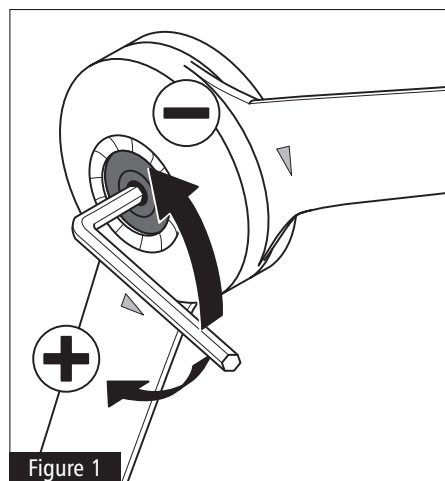

Figure 1
- 1** Use the 4mm Hex Wrench to adjust Door Stay tension to the desired resistance. Repeat procedure for other side. See Figure 1.